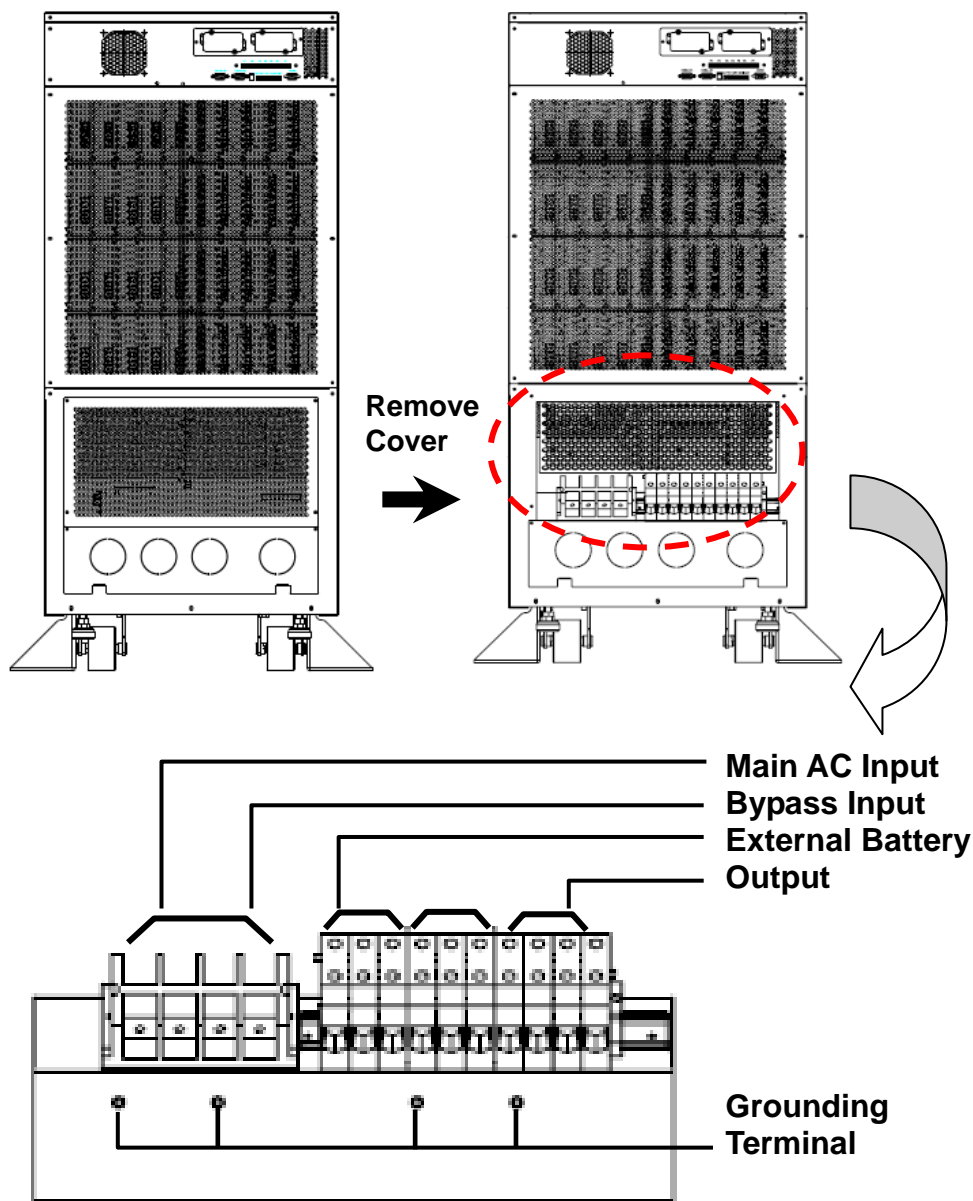

Fig. 4-1 Wiring Terminal
1. Remove the terminal cover at the rear side. See Fig. 4-1.
9. Connect all cables to the right terminal or location as indicated. (Refer to Fig. 4-1).
5. Connect all cables to the right terminal or location as indicated (Refer to Fig. 4-1).